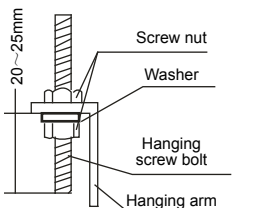

Fig. 4-9
- Locate the hanging arm on the hanging screw bolt. (Refer to Fig. 4-9) Prepare the mounting bolts on the unit. (Refer to Fig. 4-10)